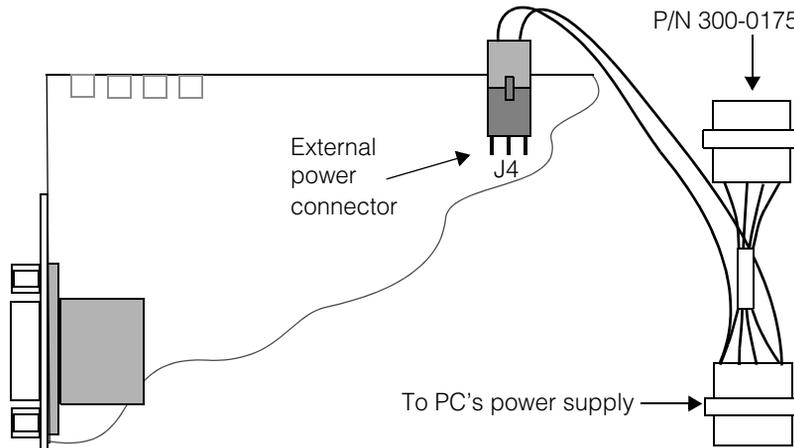

Figure 5. External power connection for the universal parallel I/O board
- Connect the external power cable, Cognex P/N 300-0175, between connector J4 on the universal parallel I/O board and a +12 V power source on the host PC, as shown in Figure 5. The cable connectors are keyed so that they will only fit the correct way.